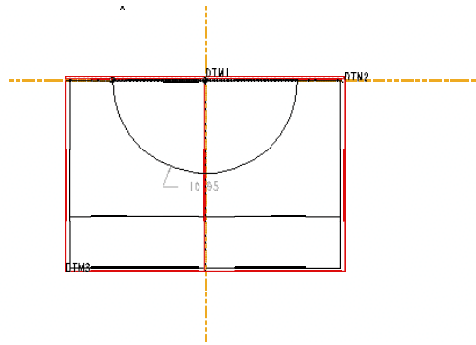

Figure 7: Rough sketch of Cut section.
2. **Sketch.** Using the arc drawing and line drawing functions, as used to define the extrusion, generate a closed semi-circular section centered on the intersection of FRONT and TOP, see Figure 7.